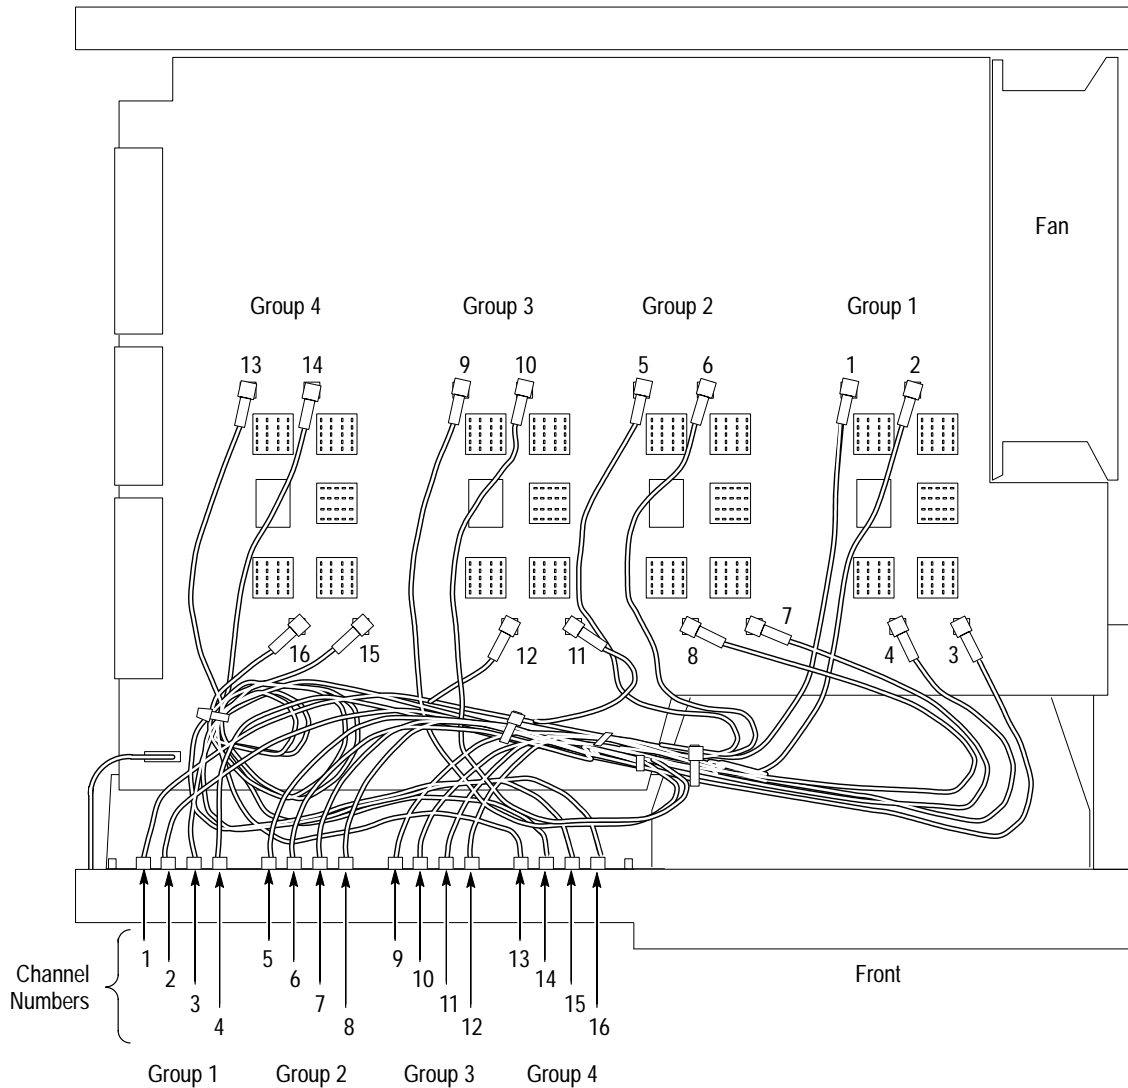

Figure 6–11: Input Cable Assembly Routing
- a. Unplug each of the 16 interconnect cables that connect to each of the 16 channel inputs from its jack on the Acquisition board. See Figure 6–11.
- c. Complete the removal by lifting the *Input Cable Assembly* out of the front subpanel. Reverse the procedure to reinstall. Be careful to plug each cable into its correct jack — Figure 6–11 shows the correct orientation.
- a. If replacing the input cable assembly with a new unit from the factory, cut the three cable ties as shown in Figure 6–12. Do *not* cut any of the cable ties that gather the cables into bundles.